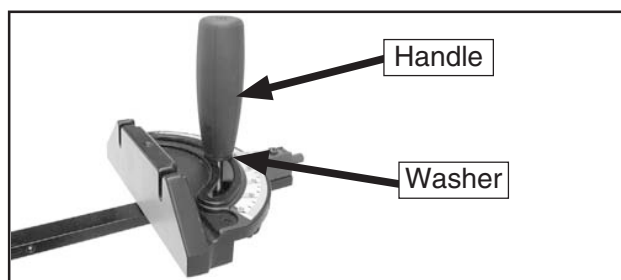

Figure 44. Miter gauge installed.
8. Install the handle with 8mm flat washer onto the miter gauge, as shown in **Figure 44**.